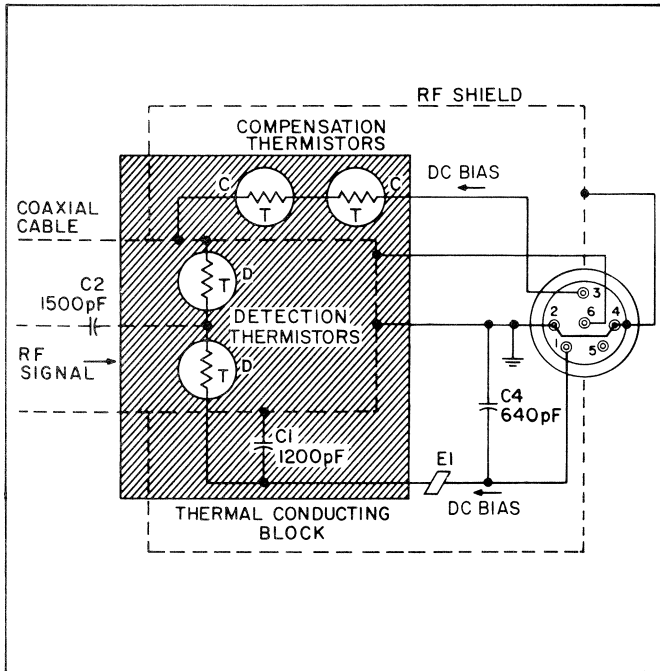

Figure 6. Schematic Diagram of a Model 478A Thermistor Mount when Connected to a 432 Power Meter
52. During 432 operation (see Figure 6) sufficient amounts of dc current are supplied from 432 Power Meter to heat the thermistors until their resistances are reduced to approximately 200 $\Omega$  per series pair. Capacitor C1 is practically a short to RF. This causes "D" to appear series connected to the dc bridge, parallel connected to RF. In this manner, "D" appears to the dc bridge in the 432 Power Meter as a 200 $\Omega$  resistance that terminates the coaxial cable into 50 $\Omega$ . Capacitor C2 blocks any dc and audio power that may be present in the incoming signal and passes only RF power.
56. Under normal operation the total power applied to heat thermistor pair "D" (see Figure 6) consists of: 1) RF signal and 2) heat from the environment. The total power supplied to heat thermistor "C" consists of: 1) dc bias and 2) heat from the same environment. As "D" and "C" are matched thermally, the total amounts of heat applied to reduce their series resistance equally must be equal.
60. Match between the thermistors may be checked by comparing the thermistor resistances under simulated operating conditions. Equipment required is indicated in Figure 6. Make connections to the connector at the rear of the thermistor mount; pins are shown in Figure 6. Note that the small battery in series with the HP Model 3440 Digital Voltmeter is connected in opposition